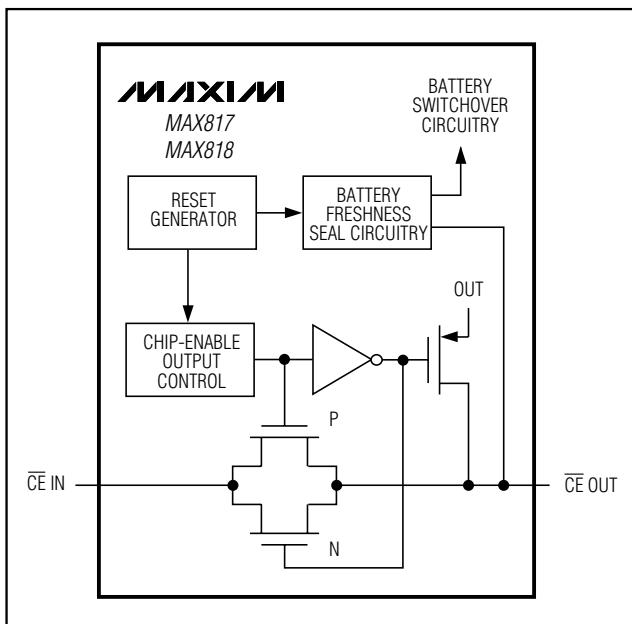

Figure 5. Chip-Enable Transmission Gate
Internal gating of the chip-enable (CE) signal prevents erroneous data from corrupting CMOS RAM in the event of an undervoltage condition. The MAX818 uses a series transmission gate from \overline{CE} IN to \overline{CE} OUT (Figure 5). During normal operation (reset not asserted), the CE transmission gate is enabled and passes all CE transitions. When reset is asserted, this path becomes disabled, preventing erroneous data from corrupting the CMOS RAM. The short CE propagation delay from \overline{CE} IN to \overline{CE} OUT enables the MAX818 to be used with most μ Ps. If \overline{CE} IN is low when reset asserts, \overline{CE} OUT remains low for typically 15 μ s to permit the current write cycle to complete.
When the CE transmission gate is enabled, the impedance of $\overline{\text{CE}}$ OUT is equivalent to a 40Ω resistor in series with the source driving $\overline{\text{CE}}$ IN. In the disabled mode, the transmission gate is off and an active pull-up connects $\overline{\text{CE}}$ OUT to OUT (Figure 5). This pull-up turns off when the transmission gate is enabled.